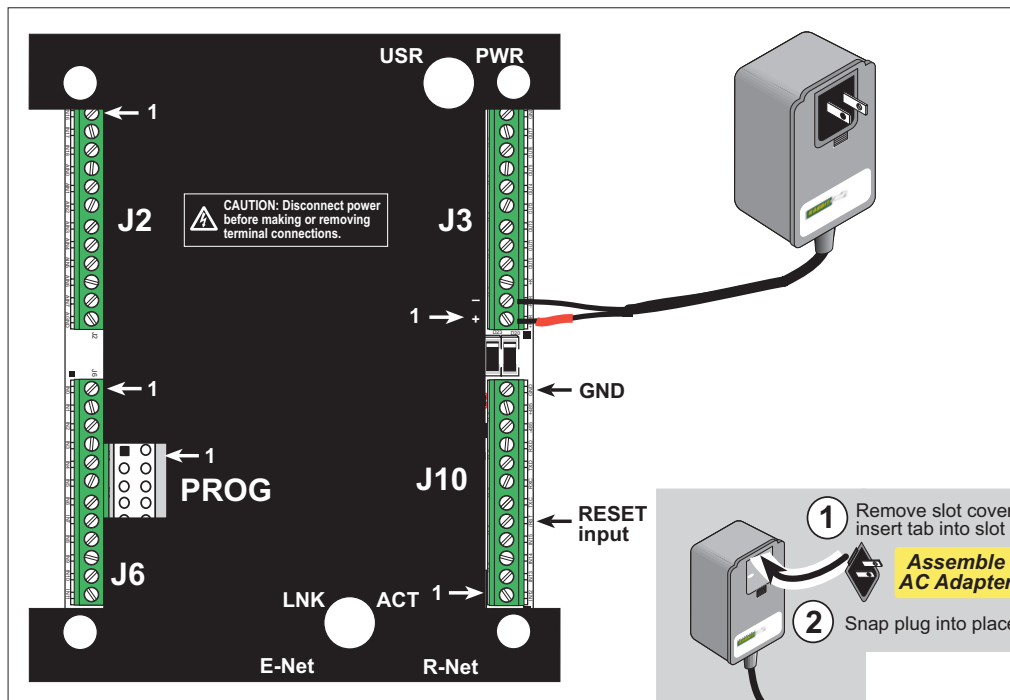

Figure 2. Power Supply Connections
1. First prepare the AC adapter for the country where it will be used by selecting the plug. The OP7200 Tool Kit presently includes Canada/Japan/U.S., Australia/N.Z., U.K., and European style plugs. Snap in the top of the plug assembly into the slot at the top of the AC adapter as shown in Figure 2, then press down on the spring-loaded clip below the plug assembly to allow the plug assembly to click into place.
Connect the bare ends of the power supply to the **+PWR** and **-PWR** positions on pins 1 and 2 of screw terminal header J3 as shown in Figure 2. The polarity of your connections is not important because the power-supply circuit has a full-wave bridge rectifier.